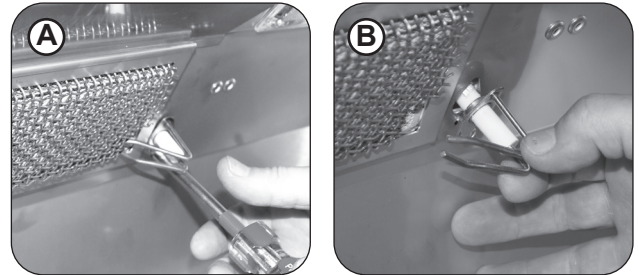

Fig. 41-2 Remove electrode
1. Remove the backburner electrode mounting screw (1/4" hex) (see Fig. 41-2, A) and loosen the electrode. Carefully pull the electrode assembly slightly from the grill wall to give enough clearance for the backburner to be removed (see Fig. 41-2, B).